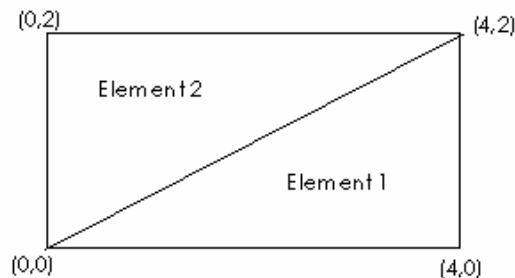

Figure: 2
5. Determine the strain-displacement matrix for the element shown in Figure 2.